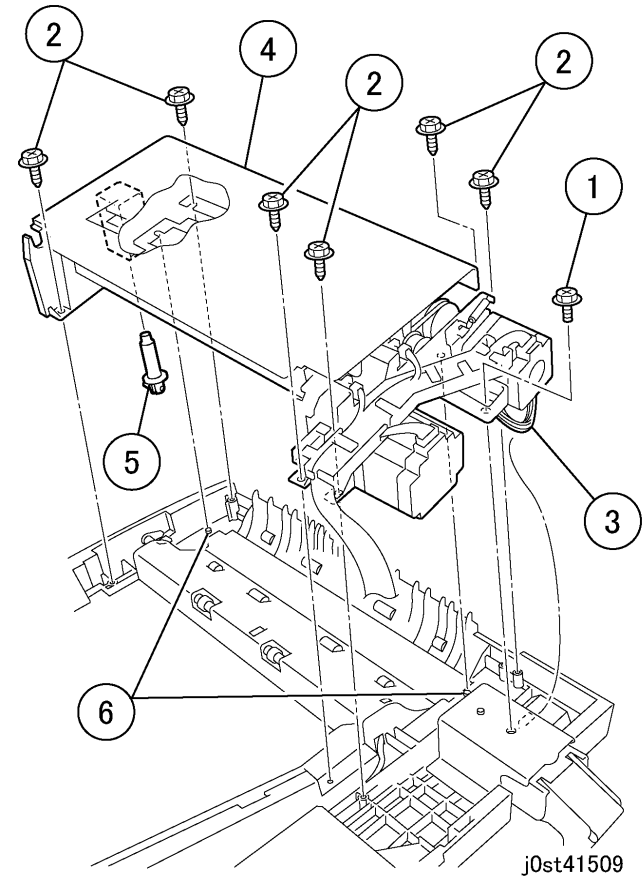

Figure 3 Removing the DADF Feeder Assembly (j0st41509)
7. Remove the DADF Feeder Assembly. (Figure 3)